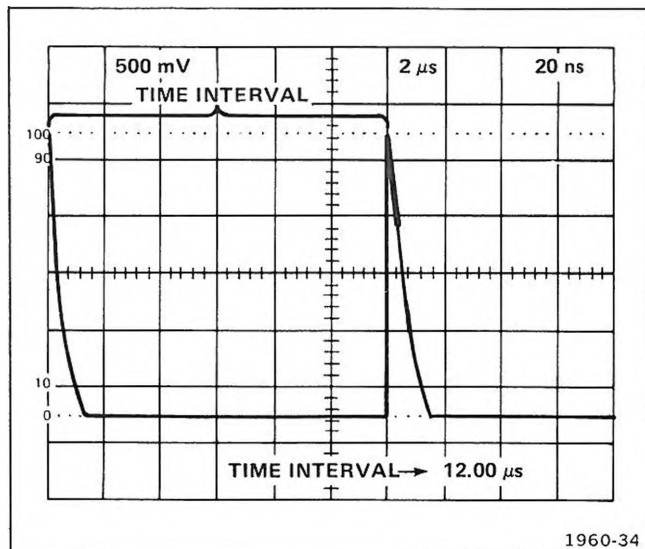

Fig. 1-8. Measuring time intervals from a triggering event (start of sweep) to any point on a waveform.
6. Set the vertical deflection factor and 7B85 sweep rate for the desired display. See the example in Figure 1-8.
7. Set the delayed (B) unit sweep rate for about a 0.5-division intensified zone.
9. Read the time interval from the start of the sweep to the leading edge of the intensified zone directly on the crt read-out (see Figure 1-8).